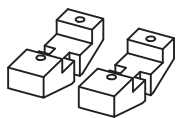

Figure 1
- Remove the factory gearbox support brackets (Fig. 1). Replace with Header Bracket (41822) positioning the slotted holes on the mount plate toward the rear of the head and fasten reusing the factory hardware (Fig. 2).